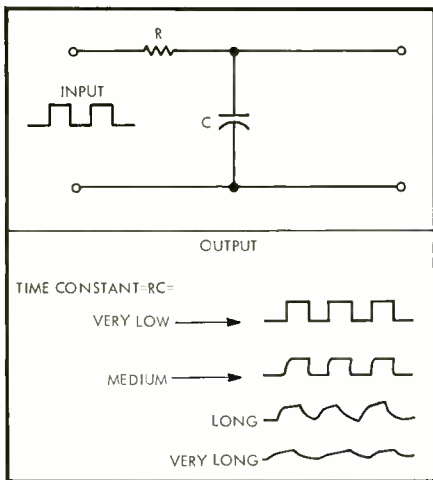

Fig. 15. Effects of time constant on output of an integrator circuit.
nal to an integrator circuit (low-pass filter) as shown in Fig. 15. Each time the applied input voltage changes value, the capacitor will try to charge to the new value. How long it takes the capacitor to charge to the value depends on the time constant, equal to the product of resistance times capacitance (RC). The time constant is equal to the time it takes the voltage across the capacitor to change by 63 per cent. For example, suppose that at a given instant the capacitor is discharged, and a pulse of 100 volts is applied to the input of the integrator. The voltage on the capacitor at the end of the time constant will therefore be 63 volts. All of this is rather elementary, but what we're leading up to is the fact that the voltage across the capacitor can be expressed mathematically in terms of exponentials. To be specific, if the voltage across the capacitor at the beginning is zero, the time constant is RC, and a voltage  $V_0$  is applied to the integrator at a time  $t=0$ , then the voltage  $V$  across the capacitor at any time,  $t$ , greater than zero can be expressed as
exponential term  $e^{-t/RC}$ . This is the reason why some of the output waveshapes shown in Fig. 15 have rounded edges.
which changes linearly with time. This can be seen in Fig. 15 for the case where the time constant is very long, with the result that the output of the circuit is very close to a triangular wave. The difficulty is that the triangular wave has a very low amplitude because the voltage across the capacitor doesn't have time to change by very much, but this can easily be fixed just by amplifying the output.